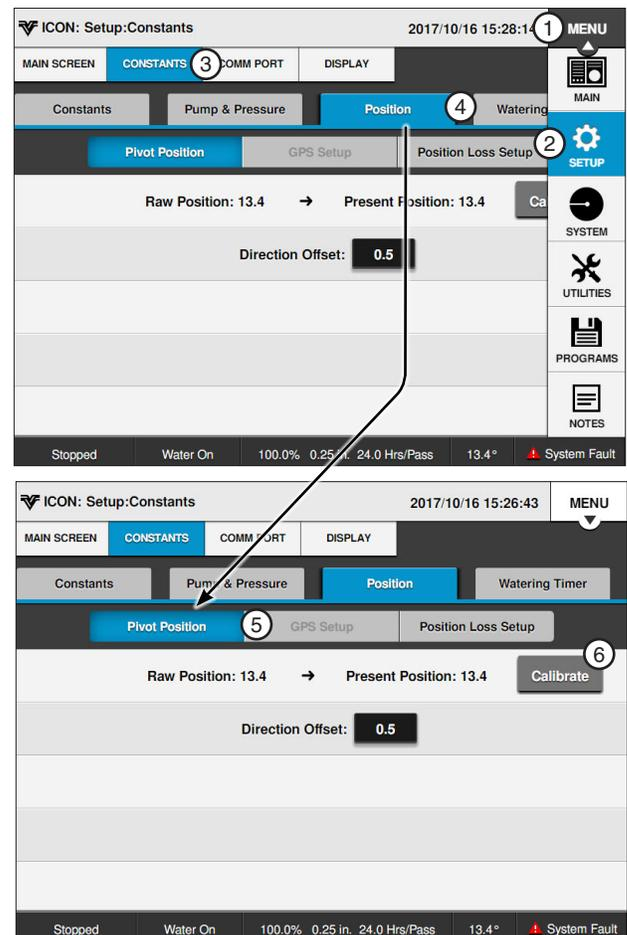

Figure 25-1 1. Menu 4. Position
1. Push **Menu**, **Setup**, **Constants**, **Position** and **Pivot Position** to display the Pivot Position screen. Refer to Figure 25-1.